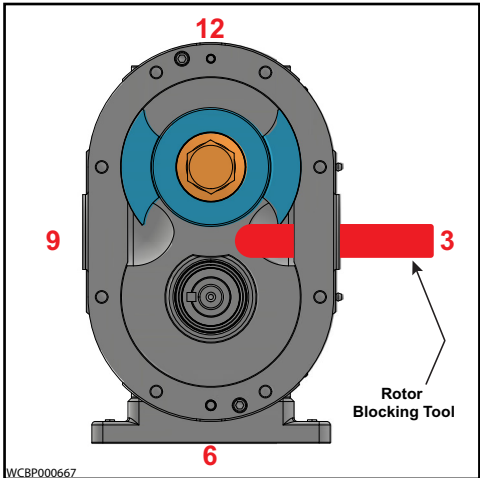

Figure 81 - Block Underlapping Rotor
10. Insert the rotor blocking tool through the port to lock the rotor, as shown in Figure 81.